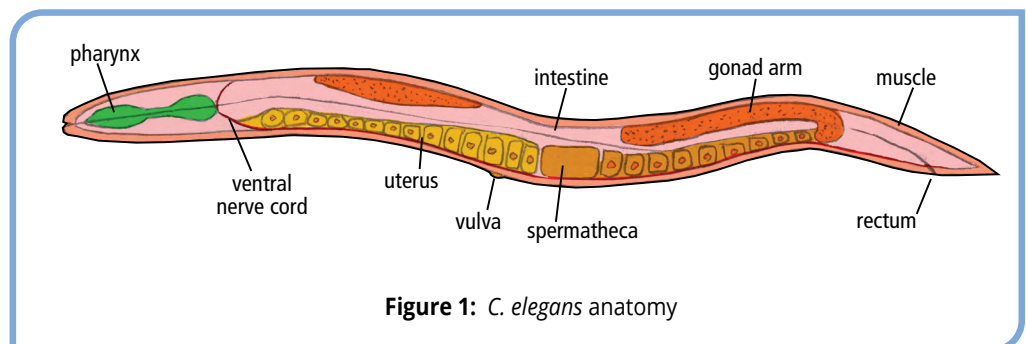
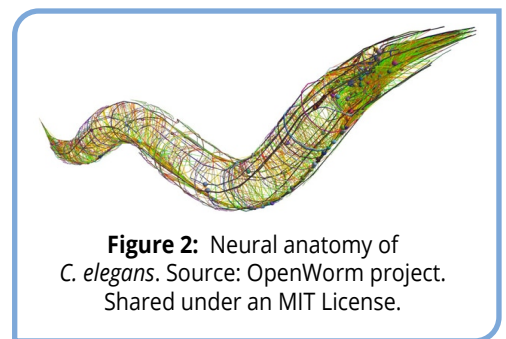

Figure 1: *C. elegans* anatomy
Figure 2: Neural anatomy of *C. elegans*. Source: OpenWorm project. Shared under an MIT License.
C. elegans is a free-living, non-parasitic nematode that lives in temperate soil, where it feeds on microbes that are found in decaying organic matter. Adult worms measure approximately one millimeter (mm) in length. The outer cuticle of *C. elegans* is transparent, making it easy to visualize the growth and development of internal structures like the pharynx, the intestine, the gonads and the muscles (Figure 1). The worm also has an extensive nervous system – in fact, the nervous system comprises almost 1/3 of the worm's 959 somatic cells (Figure 2)!
Each neuron within *C. elegans* has a defined role, shape, and position. Moreover, these features are invariant – they are the same between individuals of different populations and generations. Over the last 30 years scientists have determined the locations of every neurons as well as the roughly 7,000 connections between them. This has been translated into a comprehensive neural map, or connectome (Figure 2). Investigators have also classified each neuron by task: (1) sensory neurons that collect information from the environment, (2) motor neurons that control muscles, and (3) interneurons that connect sensory and motor neurons. While all three neural types are involved in chemotaxis, most research has focused on the biology of sensory neurons.